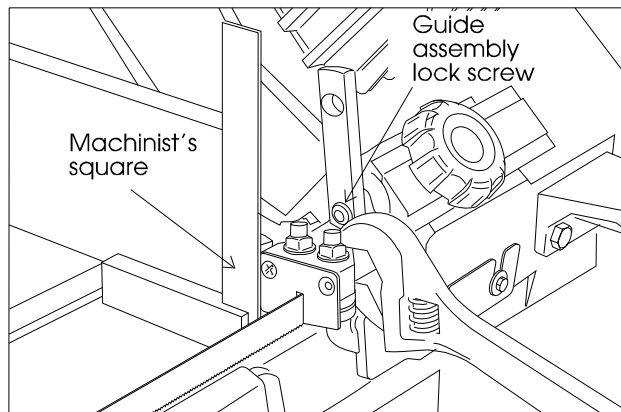

Figure 13: Adjusting blade vertical
3. Use a wrench to rotate the seat until the blade is vertical. (See *Figure 13*.)